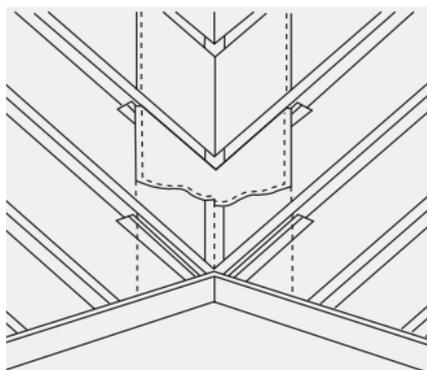

Fig .66 – Construction of valley boards
- 1 In all cases, valley boards should be fitted. Valley boards may be inset or continuous over the rafters. Where they are inset, they should be a minimum of 12mm thick and supported on bearers or noggins of 50 x 25mm or similar and set at a depth to suit the thickness of the valley board (Fig. 66).